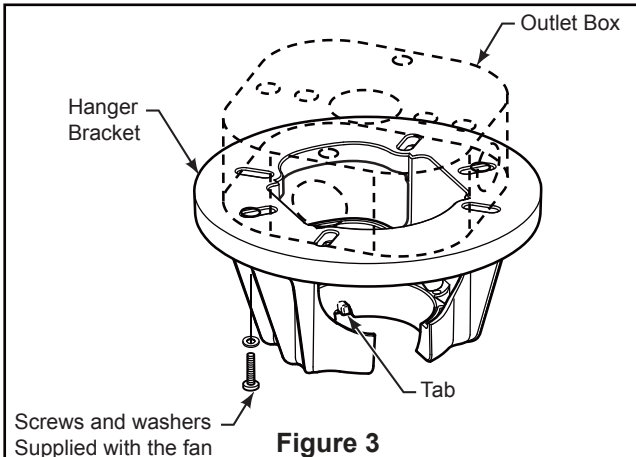
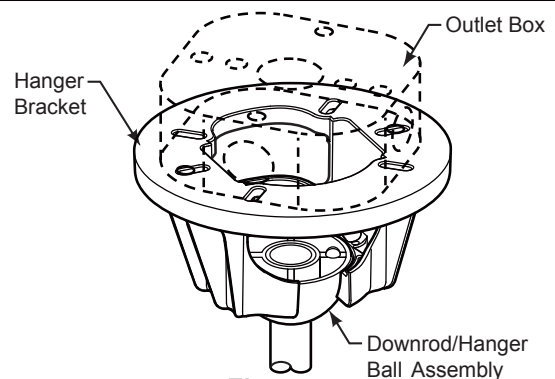

Figure 3
Figure 4
- ☐ 4. Slide downrod into the downrod support on top of the motor. Install the clevis pin by aligning the holes in the downrod support with holes in the downrod. Secure clevis pin with hairpin clip. Install and tighten the two set screws with nuts in the downrod support. Securely tighten the set screws with screwdriver then fully tighten the nuts by hex wrench. (Figure 4)
- ☐ 3. Carefully lift the fan and seat the downrod/hanger ball assembly on the hanger bracket that was just attached to the outlet box. (Figure 4) Be sure the groove in the ball is lined up with tab on the hanger bracket. (Figure 3)
- ☐ **3. Connect wires using connectors as shown in Figure 4.** Connect the 2 pin connectors from the motor assembly to the 2 pin connectors from receiver, connect the 3 pin connectors from the motor assembly to the 3 pin connectors from receiver.